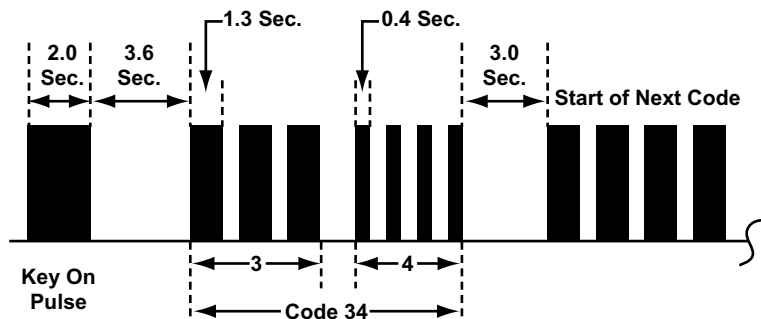

Figure 8-29 Honda ABS Code Type 04
- Type 04, see Figure 8-29 and Table 8-7 on page 79